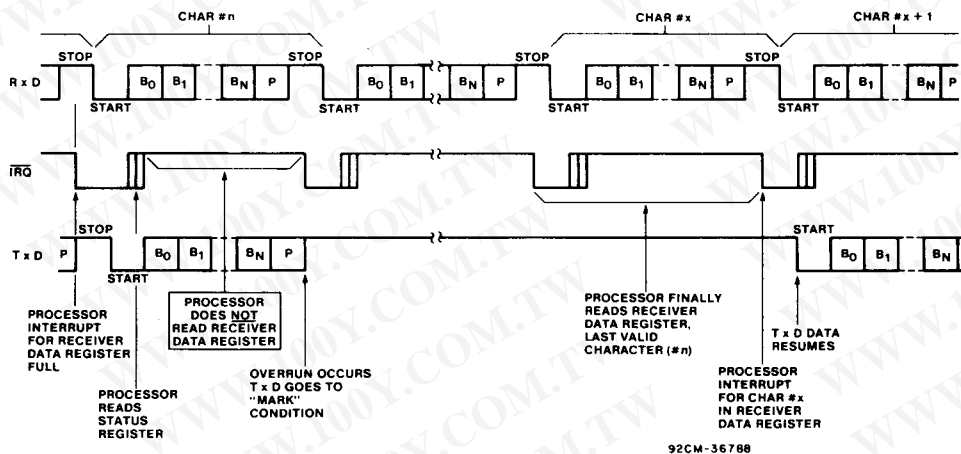

Fig. 14 - Overrun in echo mode.
**Overrun in Echo Mode (Fig. 14)**